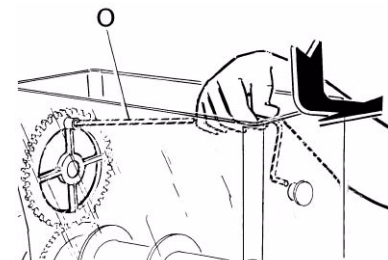

FIGURE 21
13. Reassemble the mixing rod (O) so that its gears are aligned with the lower gear ring. This will allow the front pin to fit perfectly in its position on the bowl (Figure 21).